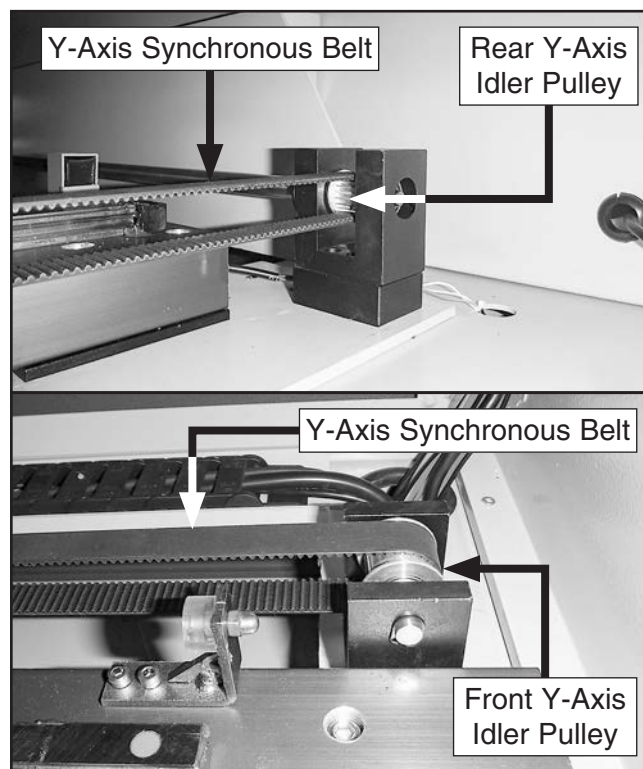

Figure 86. Front and rear Y-axis idler pulley locations.
6. Remove belt from idler pulleys on front and rear of support rail, then remove belt from machine (see **Figure 86**).